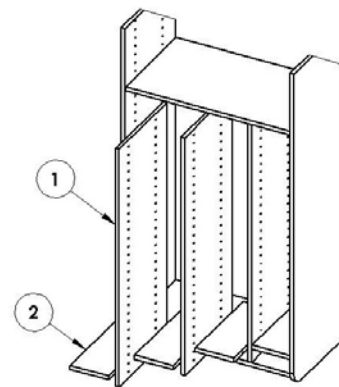

FIG. 1
- Insert Vertical Partitions (#1), using Adjustable Shelves (#2) to space Partitions evenly (Fig. 1).